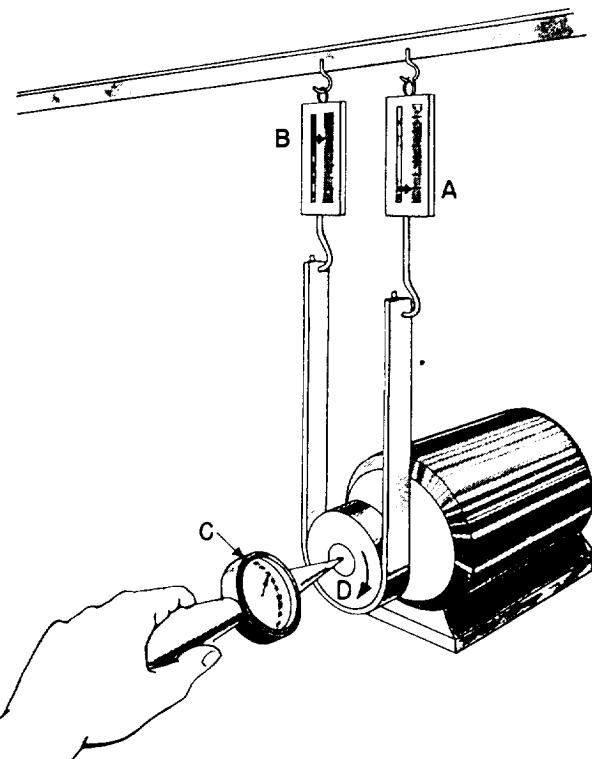

Figure 8-3. A prony brake.
motor or a steam or gas engine is with the use of the prony brake. Figure 8-3 shows you the prony brake setup. A pulley wheel is attached to the shaft of the motor and a leather belt is held firmly against the pulley. Attached to the two ends of the belts are spring scales. When the motor is standing still, each scale reads the same—15 points. When the pulley turns in a clockwise direction, the friction between the belt and the pulley makes the belt try to move with the pulley. Therefore, the pull on scale A will be greater than 15 pounds, and the pull on scale B will be less than 15 pounds.
You can find the number of revolutions by holding the revolution counter (fig. 8-3, C) against the end of the shaft for 1 minute. This counter will record the number of turns the shaft makes per minute. The distance (D) that any point on the pulley travels in 1 minute is